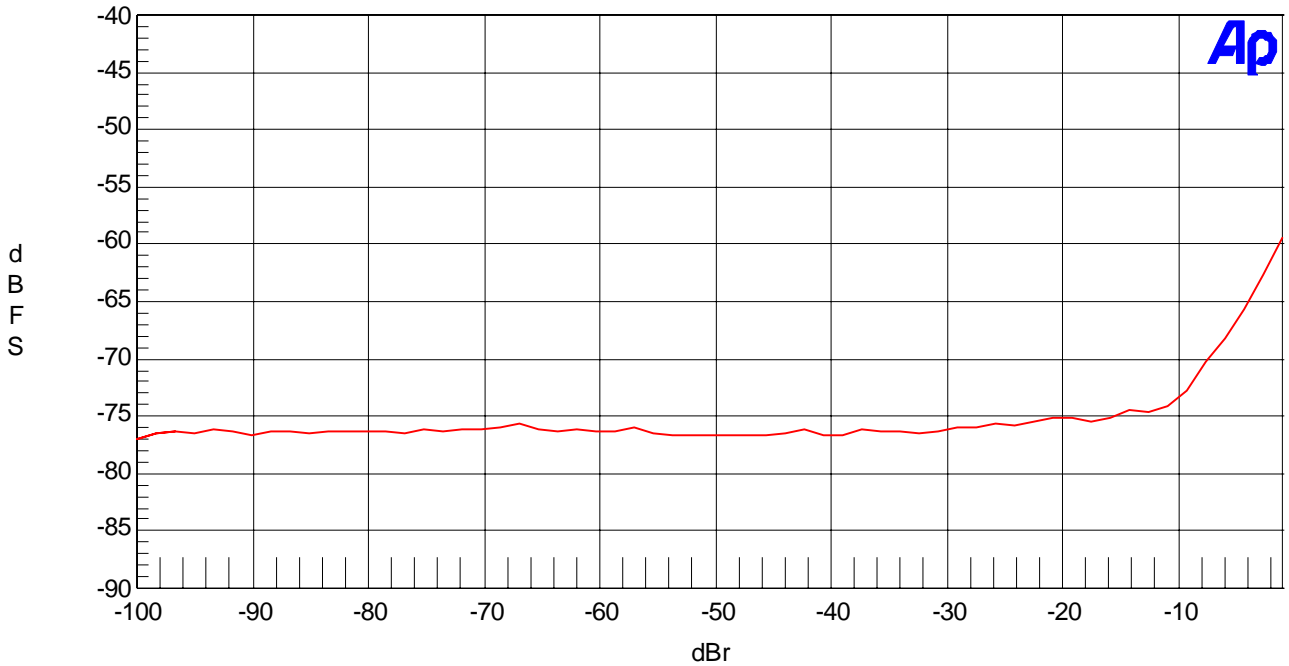

Figure 9. THD+N vs. Input Level (1kHz)
- Figure 9. THD+N vs. Input Level (1kHz)